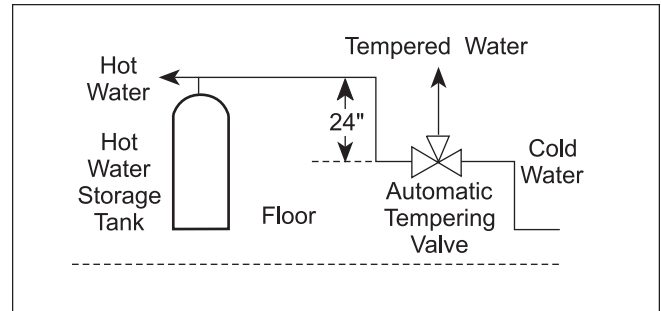

Figure 10. Tempering Valve Installation.
8. When installing a tempering valve, place at bottom of antithermosyphon loop at least 24" high to prevent excessive hot water from entering mixed water supply. Bring the cold water supply up from the floor to the valve (see Figure 10).